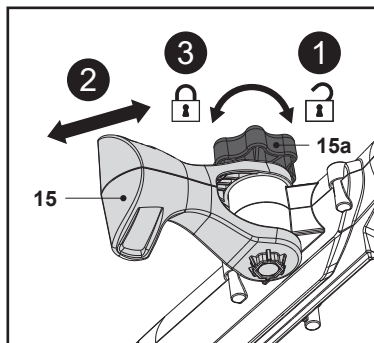

Fig. 5
1. Loosen the lock button (15a) in clockwise (Fig. 5, step 1), then rotate the auxiliary handle (15) forward or backward to adjust the angle (Fig. 5, step 2).
2. Tighten the lock button (15a) in anticlockwise to secure the auxiliary handle (15) in position (Fig. 5, step 3).